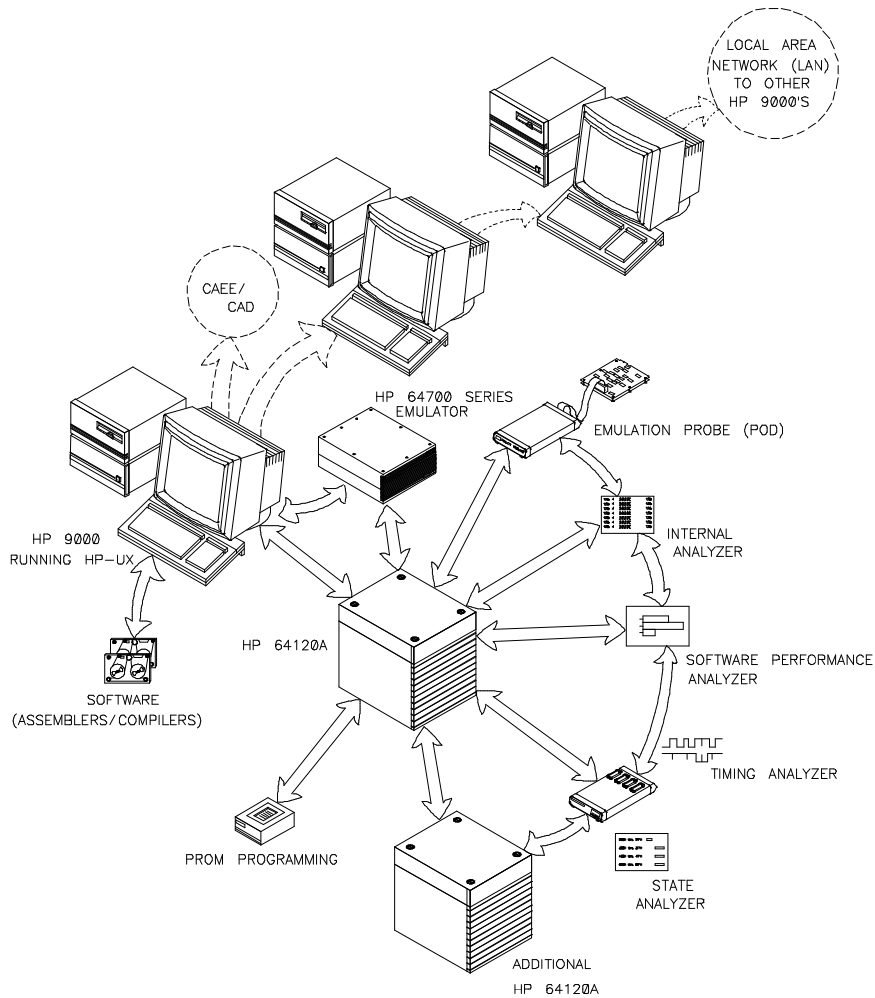

Figure 1-1. Integrated Products Solution
- Figure 1-1. Integrated Products Solution 1-3
The HP 64700-Series emulator/analyzer is a tool used to aid you in the development of your target system hardware and software. Proper use can help ensure that your hardware and software work together. The HP 64700-Series emulator/analyzer can be used with or without target system hardware, or with other products to debug your target system hardware and to integrate your software and hardware. Figure 1-1 shows an example emulation solution.